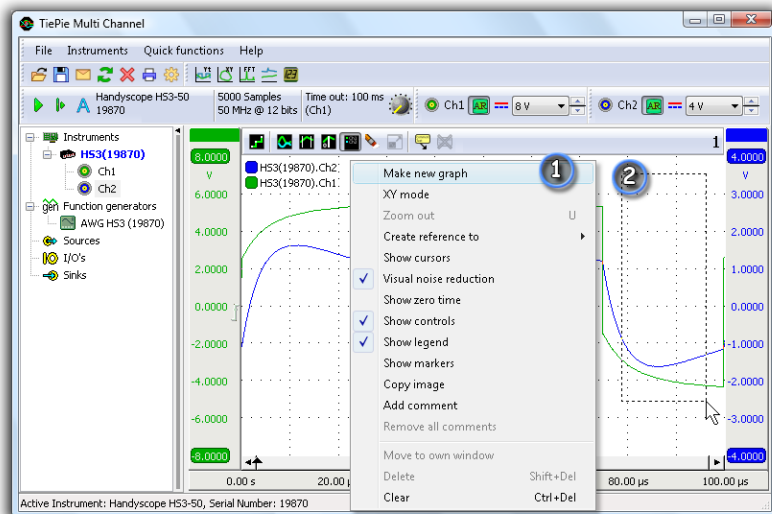

Figure 4.1: Create a new graph in two steps
① Right-click anywhere in a graph on the main screen and select ***Make new graph*** from the menu. ② After dragging a rectangle anywhere on the graph section, a new graph will be created on the selected position. See figure 4.1.